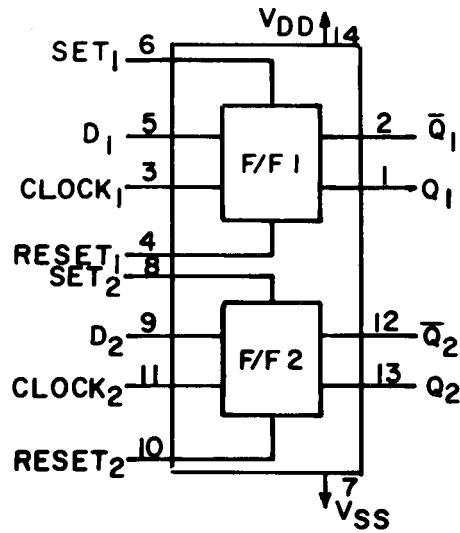

Figure 1-28. Dual D-Type Flip-Flop.
2. *Dual D-Type Flip-Flop (CD4013AE).* Each flip-flop (fig. 1-28) has independent data, set reset, and clock inputs and Q and